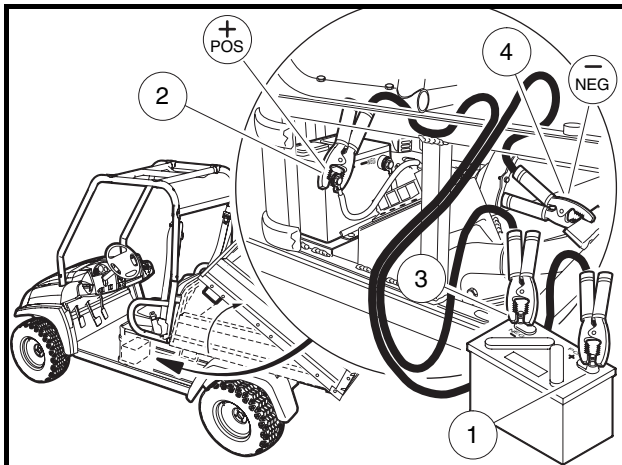

Figure 41 Jump Starting
4. Locate the vehicle battery on the driver’s side of the vehicle under the cargo bed (**Figure 41**).
5. Connect the end of the first cable (1) to the positive (+) terminal of the booster battery. Connect the other end of the same cable (2) to the positive terminal of the vehicle battery. **See DANGER “ Battery – Explosive gases! ...” on page 8.**
6. Connect the end of the second cable (3) to the negative (–) terminal of the booster battery. Connect the other end of the same cable (4) to the battery frame ground.
8. After the engine has started, remove the frame ground (–) cable (4) first. Remove the cable from the positive terminal (2). Then remove the cables from the booster battery. **See following CAUTION.**